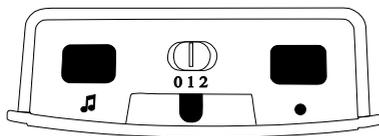

Figure 2: »signolux« top side
Using the signal mode slide switch (in fig. 2 "0 1 2") you can select the signal mode. Kindly keep in mind that the symbols are always displayed with coloured light diodes.
- Press the melody setting button  (fig. 2) until you have found the desired melody (you can choose from 15 melodies).
- Keep the key ● (fig. 2) pressed for some time. The symbols flash in sequence. Let go of the key as soon as you see the desired symbol.
- Now press key ● and the melody setting button 🎵 (fig. 2), until all symbols briefly flash at the same time.
Shortly pressing the memory button ● (fig. 2) the last registered signal can be displayed again.